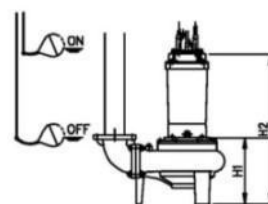

Fig.3
- Manual type pumps do not have an automatic operating system based on built-in floats. Do not operate the pump above ten minutes with the water level near the minimum operating level as the automatic cut-off switch incorporated inside the motor will be activated. To avoid dry operation, install an automatic operating system, as shown in Fig.3. Water levels H1 and H2 are shown in the following table.